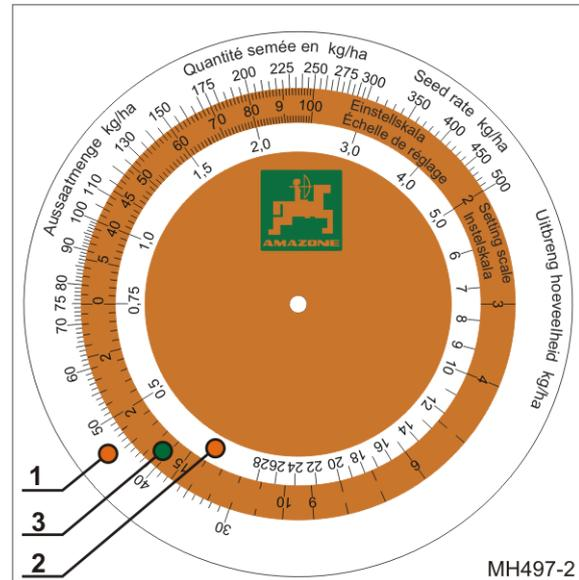

Fig. 53
- An outer white scale (Fig. 53/1) for all seeding rates above 30 kg/ha
- An inner white scale (Fig. 53/2) for all seeding rates below 30 kg/ha.
- A coloured scale (Fig. 53/3) with all gearbox settings from 1 to 100.